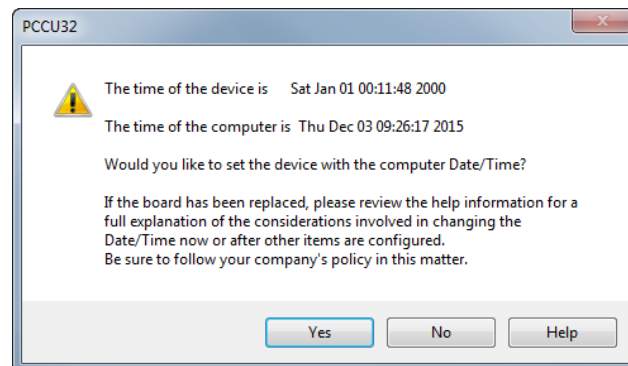

Figure 27: Synchronize date and time
16. If the RMC calendar clock is different from the laptop's date and time, a message box displays to synchronize the date and time (Figure 27).